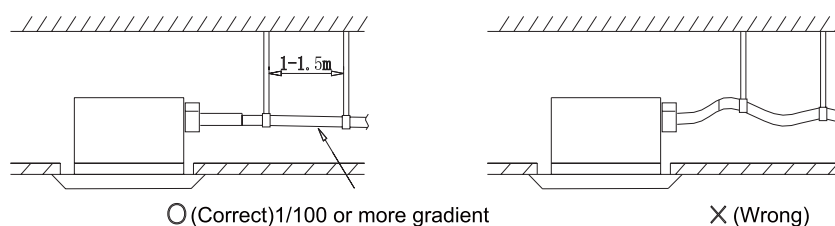

Figure 1-3-9
- The drain raising pipe should form a right angle with the unit, and the distance to the unit should not be beyond 300mm. (As shown in Figure 1-3-9)